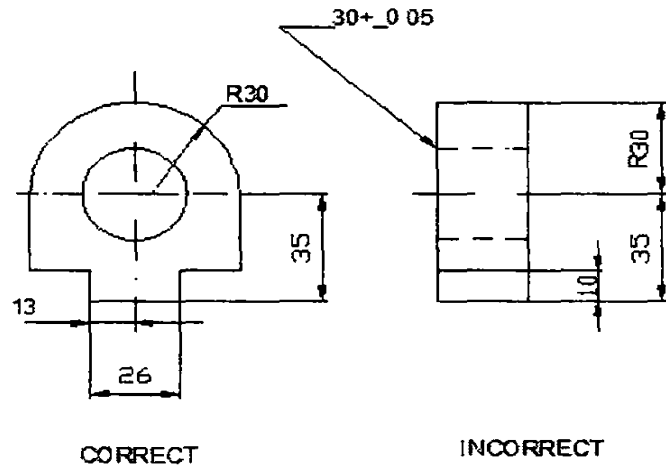

Figure 1 Placing the dimension where the shape is best known.
3. Dimension should be placed on the view where the shape is best seen (Fig.1)